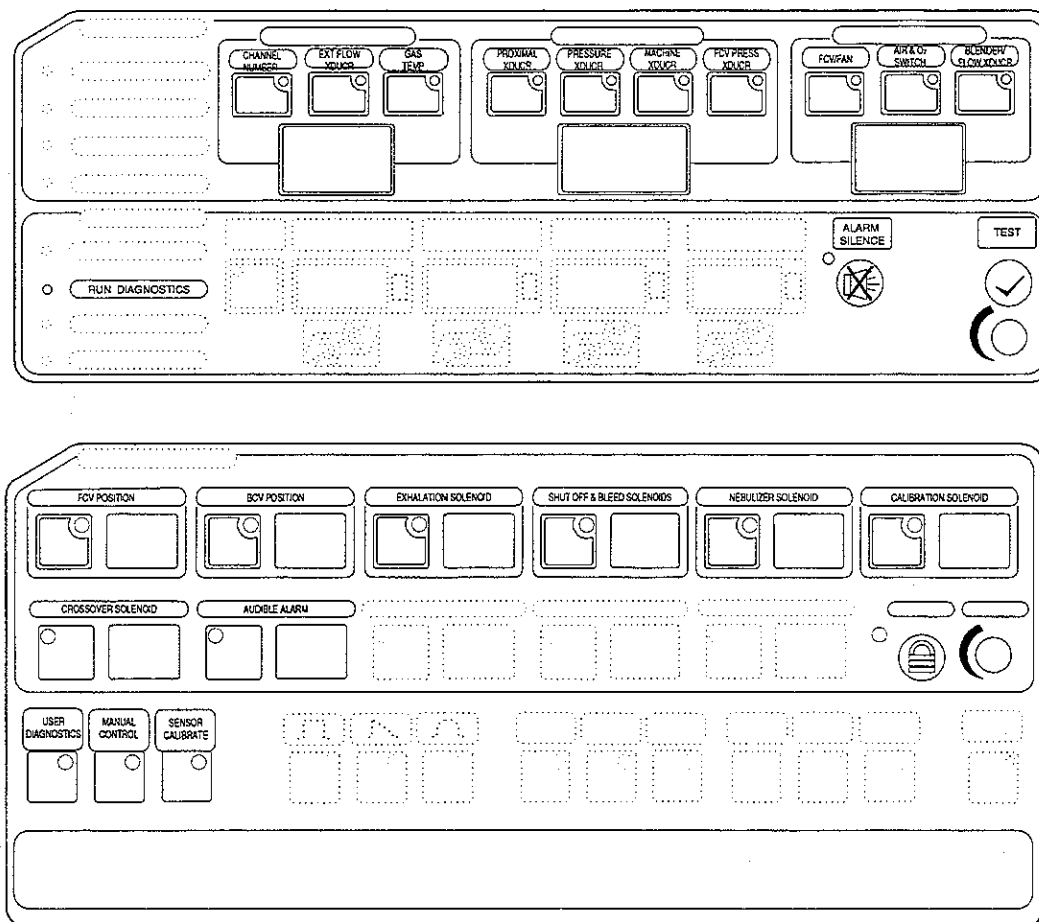

Figure 5-10
3. Press the Exhalation Solenoid key to turn on (display = 1) the Exhalation solenoid See Figure 5-10).
4. Activate the Nebulizer Solenoid (Ref. Figure 5-10).